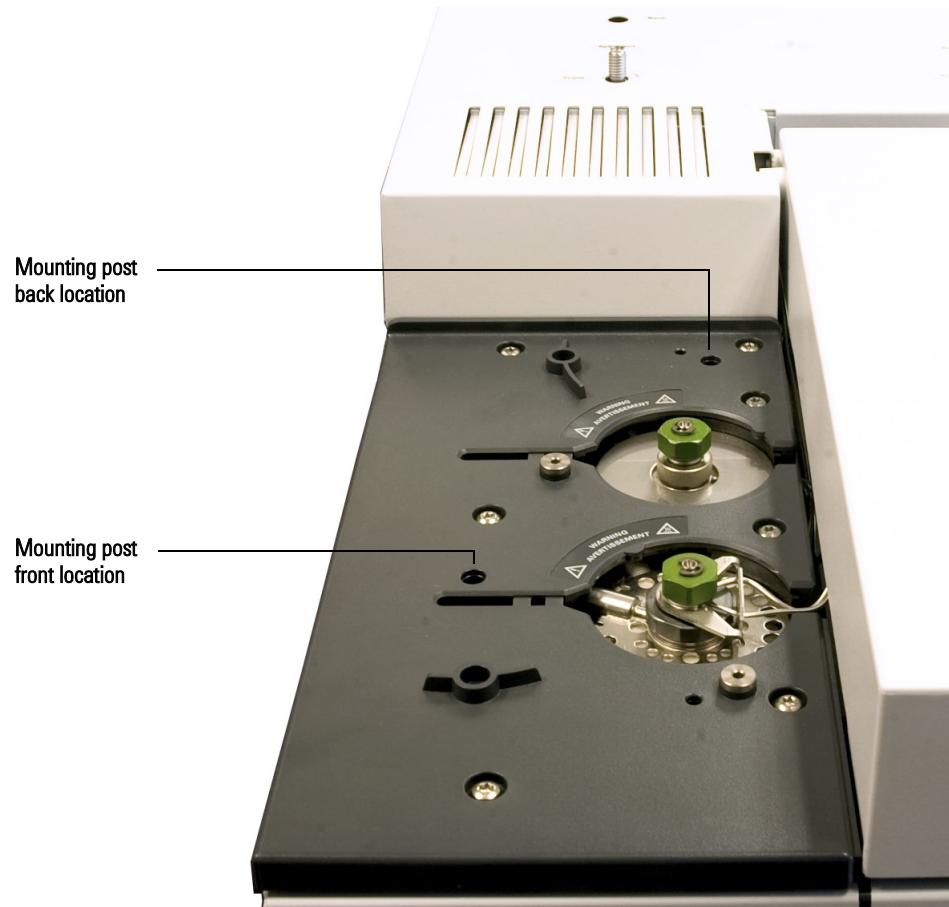

Figure 14 Mounting post locations on a 7820A GC (7890A GC is similar)
- For a 7890A GC, 7820A GC, or 5975E GC/MSD, install the mounting post into the inlet cover in the front or back location (see Figure 14). The post must be turned all the way down.